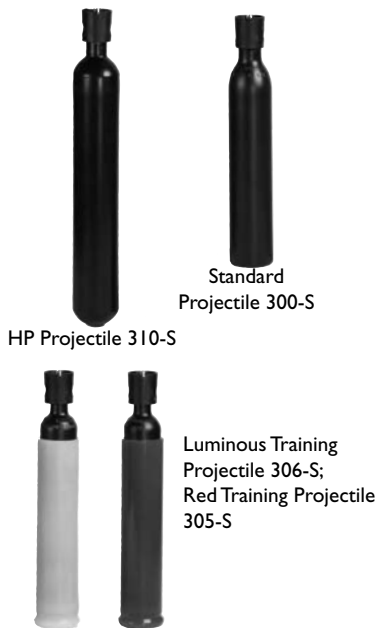

Figure 4a - Projectile Offerings
The ALM can be supplied with three types of projectiles: Training Projectile, Standard Line Projectile, and the High Pressure (HP) Projectile. (Fig. 4a) Each projectile will deploy a variety of line over a range of distances, depending on the service pressure, the volume of the cylinder, and the type of line used. (See Page 5) The Training Projectiles and the Standard Projectile have a service pressure of 3,000psi / 207 BAR and the HP Projectile has a service pressure of 4,500 psi / 310 BAR. The cylinders must be inspected before and after each use. If the cylinder sustains any visible damage from contact with a hard surface then it must not be re-used. If the protector shows signs of damage after use it must be removed. (See Page 19)